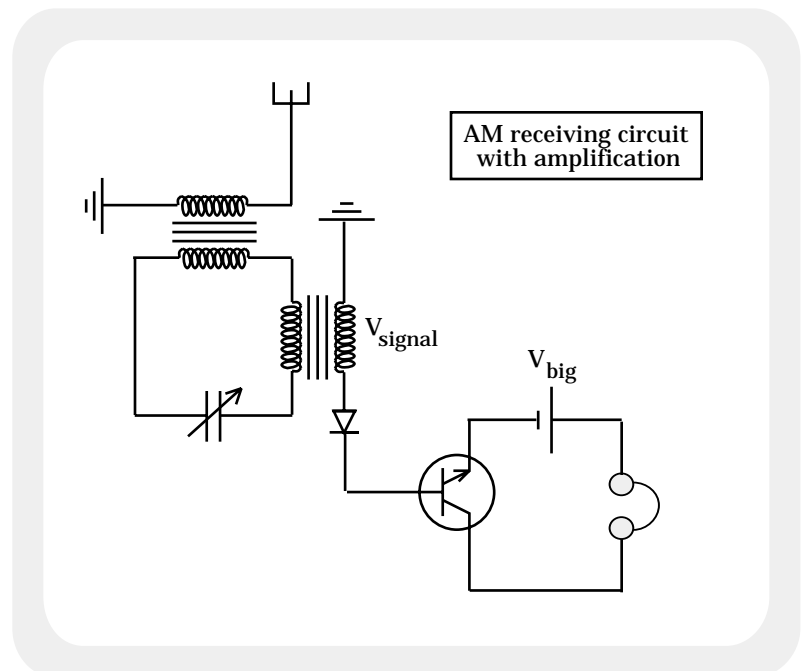

FIGURE 21.20a
7.) Bottom line: In our radio circuit, the signal provided by the radio station is ushered into the amplifier-inclusive speaker circuit via the transformer between the tuner circuit and the transistor (see Figure 21.20a). Treating that transformer's secondary coil as though it were a signal source V_s , we end up with a radio receiver circuit with amplification.